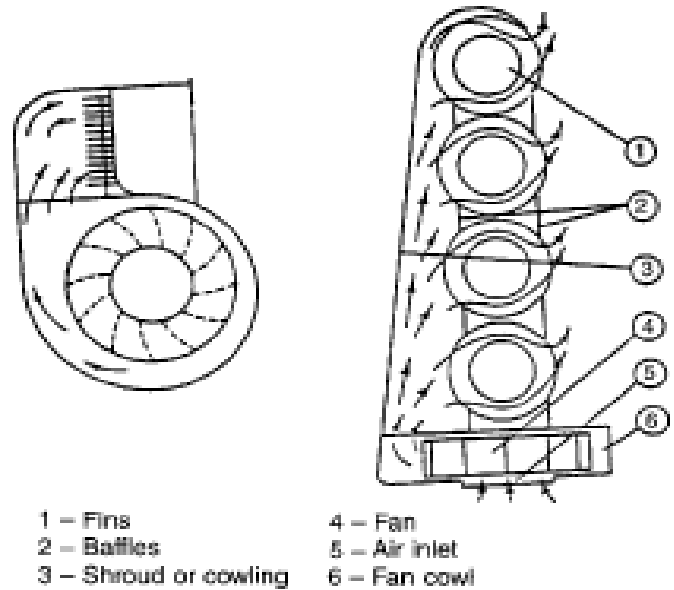

Fig. 6: Simple in-line air-cooled engine using radial-type fan.
Fig. 6: shows a simple air-cooled system for a four-cylinder in-line engine. A centrifugal fan, driven at approximately twice crankshaft speed, is mounted at the front of the engine and takes in air through a central opening (5) in the fan casing. This air is delivered into the cowl (3), where it is directed over the fins of the cylinders (1). Baffles (2) ensure that the air passes between the fins, where it picks up heat, thus cooling the cylinders.